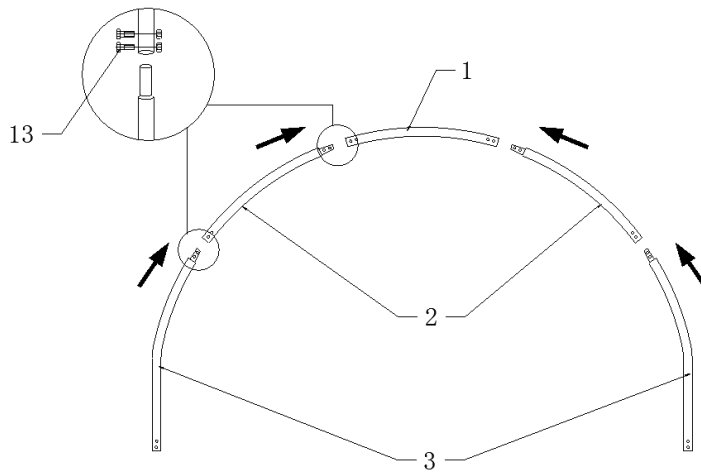

Figure 3
3.1 As Figure 3 shown to find one Roof Bent Tube (No.1), two Middle Bent Tubes (No. 2), Lower Bent Tube (No. 3) and assemble every group arch with Bolt M8x60 (No.13). DO NOT install the screw on the top of the truss where the fabric will rest.